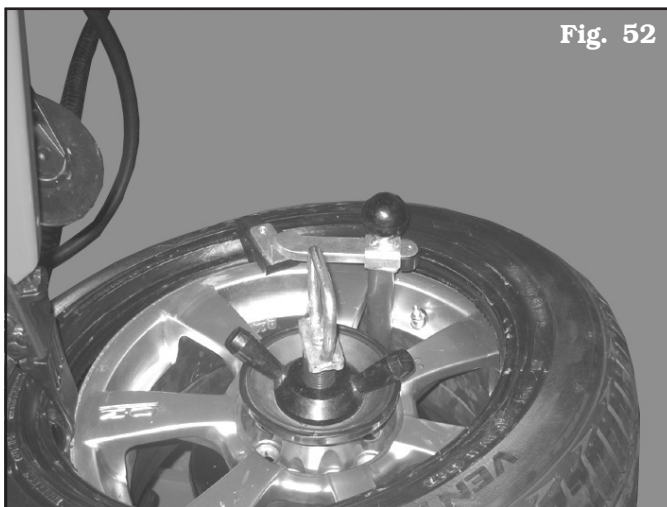

Fig. 52
1. Assemble the entrainer with extension near the edge rim (see Fig. 52).